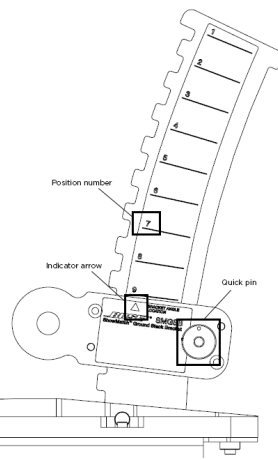

Fig. 1. Position number
2. Position the top of the adjustable link directly under the line that corresponds to the desired position. The indicator arrow on the adjustable link points to the position number. See Fig. 1. Refer to the table in Fig. 2 for the corresponding pitch angle for each full-range module.